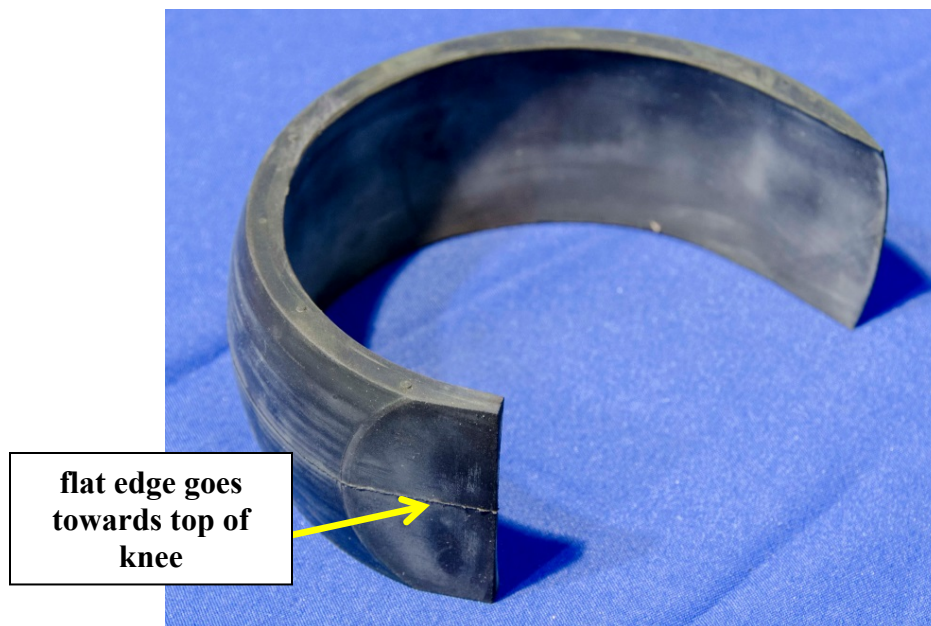
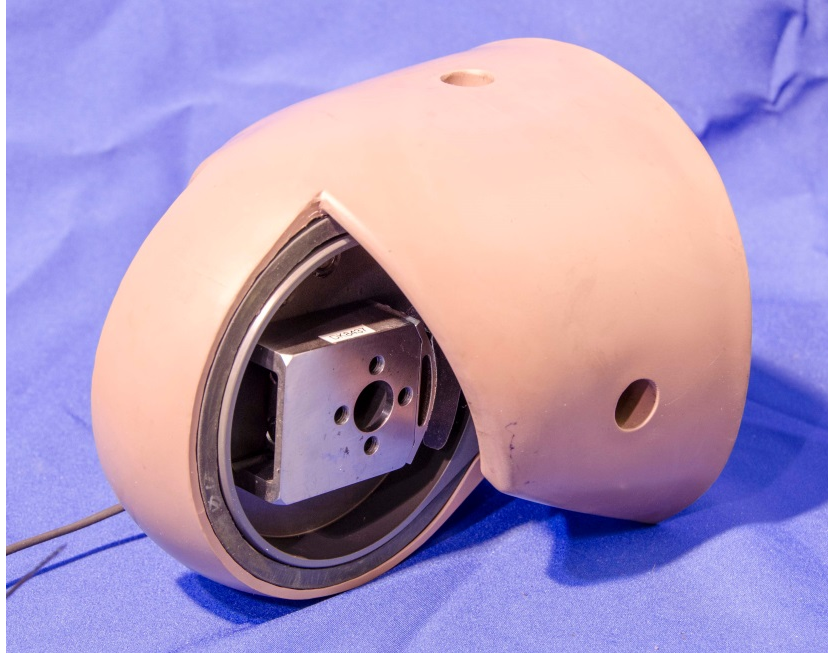

Figure 11-20. Orientation of molded knee flesh insert
Figure 11-22. Complete knee assembly
11.2.2.13 Install Molded Knee Flesh Insert (472-5301) between flesh and knee cap. Position the “flat” end of the insert at the top of the knee (Figure 11-20 through Figure 11-22).